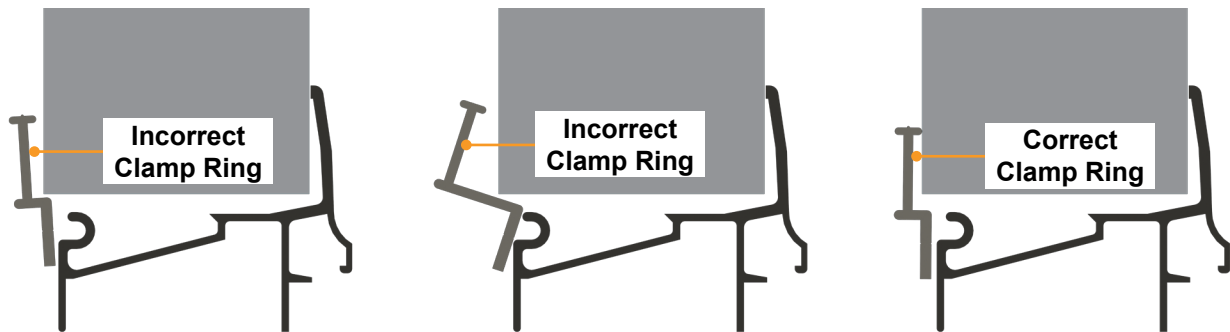

Fig.3
**NOTE:** The clamp ring should fit parallel to the opening after installation is complete. See Figure 3 for examples of correct and incorrect clamp ring installation.
3. The clamp ring must fit parallel to the opening after installation is complete. See Figure 3 for examples of correct and incorrect clamp ring installation.